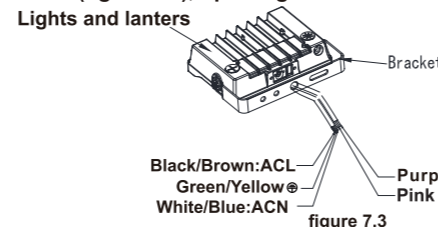

figure 7.3
Step 2: Finish the wire connection according to the right mode of connection (pay attention to positive wire, negative wire, and ground wire).(figure 7.3)